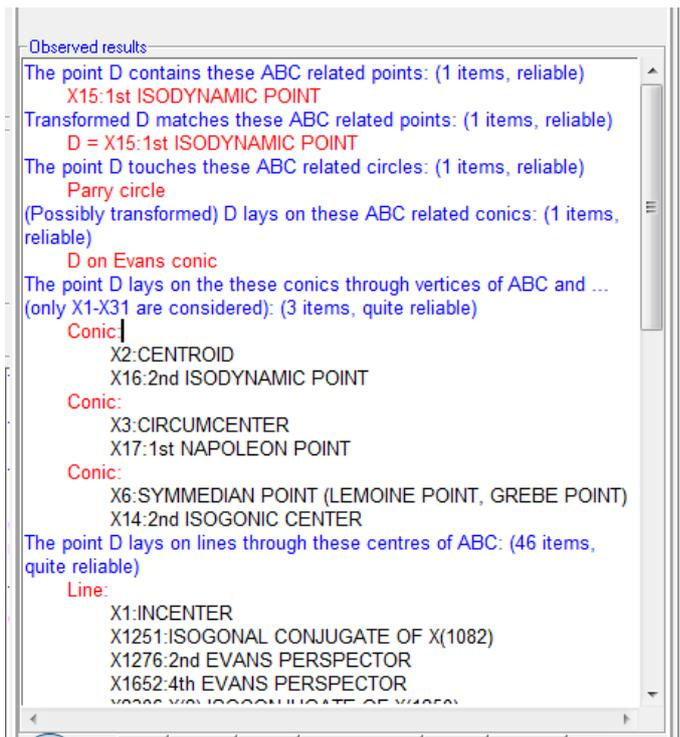

Figure 24
1. Once you completed the schema in Figure 23, you can start the analysis by pressing the **Study** button. The reported results of the analysis are displayed in the **Observed results** section. Figure 24 shows an illustrative example of part of the displayed results (the analysed object is a point D).